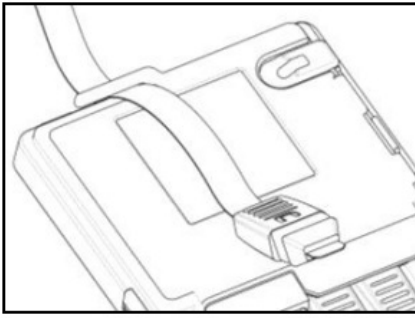

Fig. 9
- Secure the keypad flex in the special stop (Fig. 9).